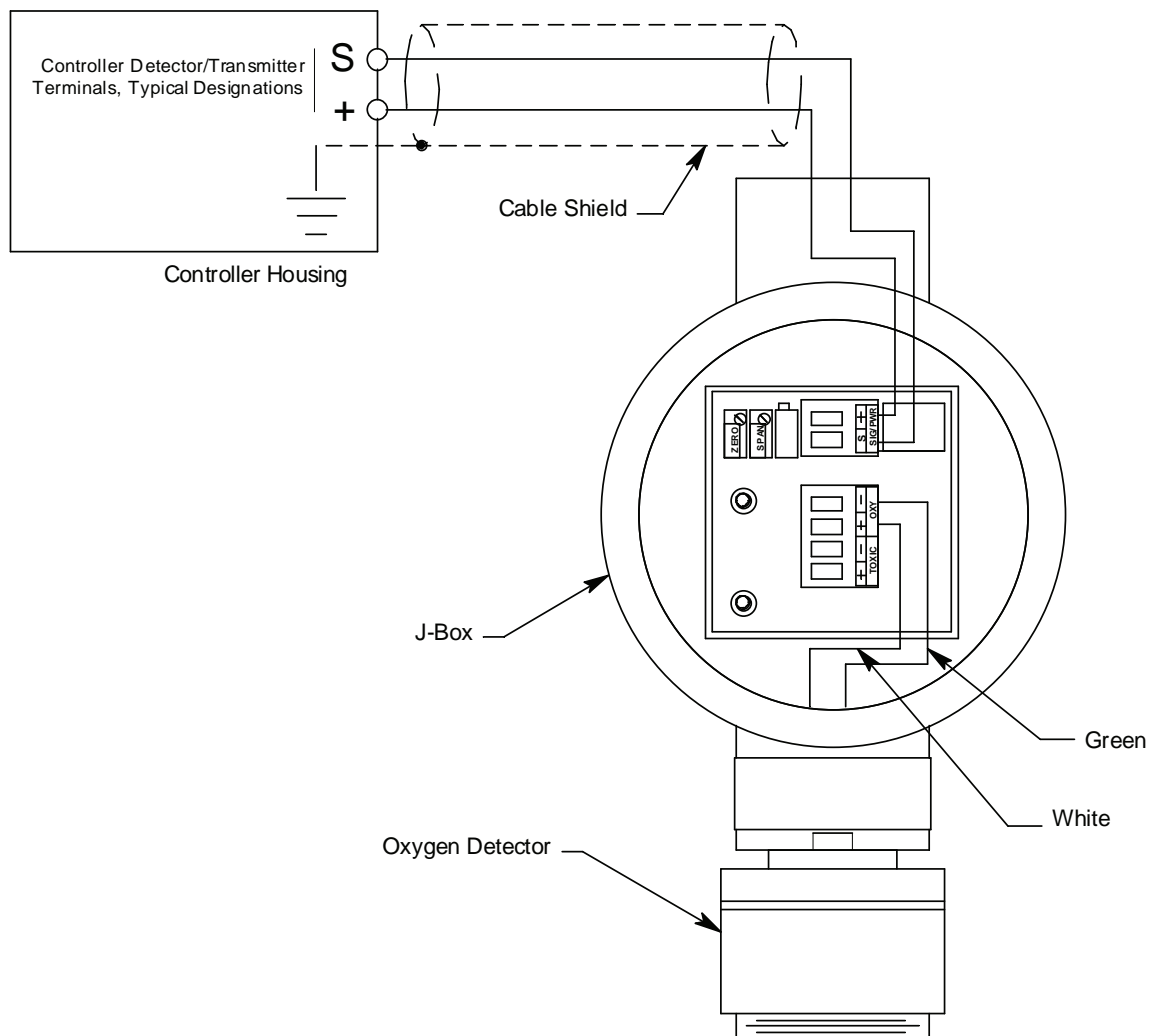

Figure 4: Wiring the Oxygen Transmitter to a Controller
4. The detector leads are factory wired. Verify that the detector leads are wired to the amplifier's detector terminal strip as shown in Figure 4.
7. Pull out the controller terminal strip, and connect the two wires to the terminal strip as follows (see Figure 4).
11. Connect the wires to the applicable detector/transmitter terminal strip at the controller as shown in Figure 4.
8. Connect the detector leads to the appropriate detector terminal strip terminals. Connect the white wire to the terminal labelled Oxy + and the green wire to the terminal labelled Oxy -. See Figure 4 on page 7 for the detector wiring connections to the amplifier.
8. Install the detector and controller terminals strips into their sockets on the new amplifier as shown in Figure 4 on page 7. If controller leads or detector leads were removed during this procedure, refer to Figure 4 on page 7 for the detector and amplifier connections.